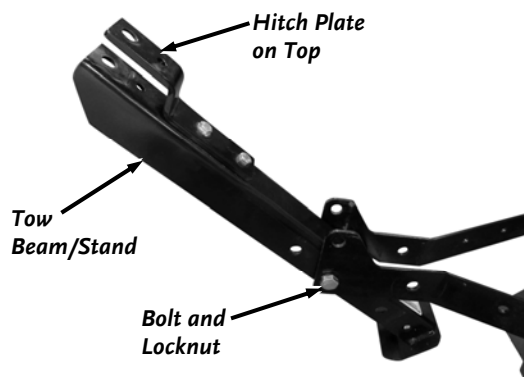

Figure 46
4. Secure the Tow Beam/Stand to the Hitch Supports with the 3/8-16 X 3" Bolt and Locknut using two 9/16" Wrenches (**Figure 46**). Do not over tighten because the Tow Beam/Stand must be able to rotate between the Hitch Supports.